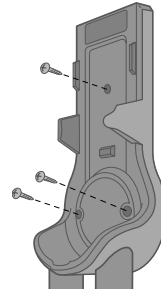

Figure 2.2
1. Mount the charging dock by screwing it into the wall near a power outlet [Figure 2.2].